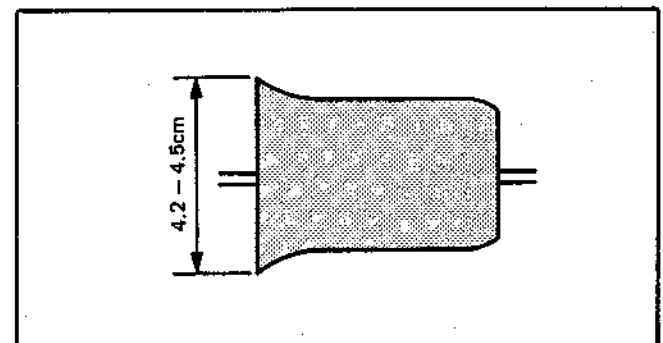

Fig. 4-14
- 7) Turn No. 5 guide flange so that RF output waveform entrance portion is 4.2 - 4.5cm. (Fig. 4-14)
Note: When the lock screw is tightened, the waveform changes easily, so be sure that the waveform is within the specifications after the screw is tightened. (Fig. 4-14) If not, adjust so that the entrance portion of the waveform is 4.2 – 4.5cm after tightening the lock screw.